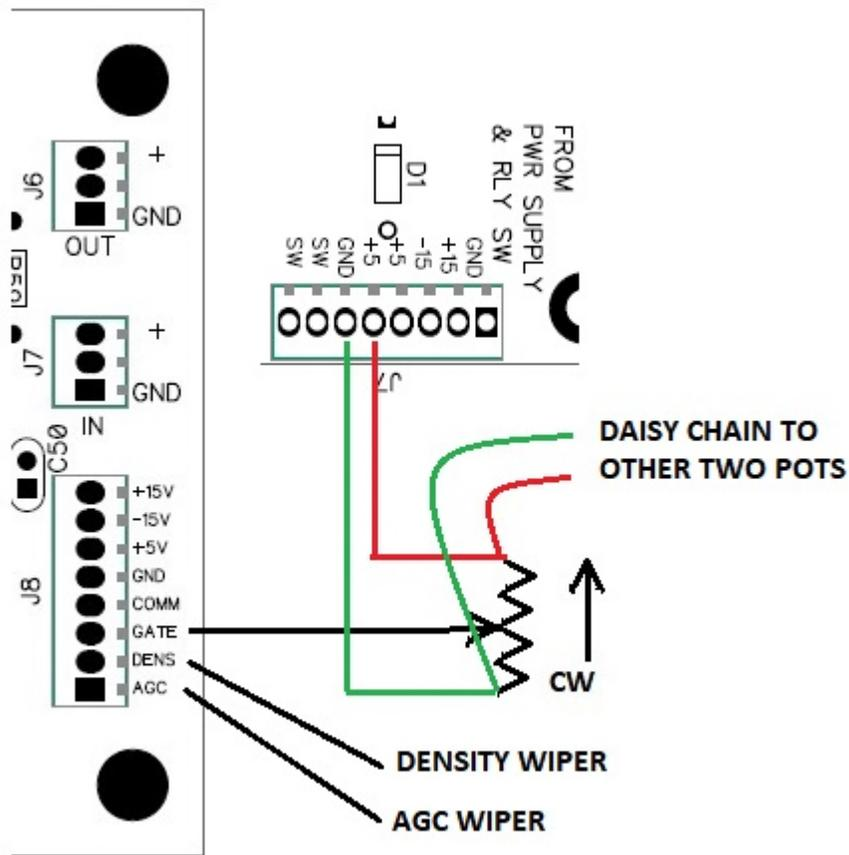

Figure 3
- There are three linear taper pots for adjustment of the Density, Gate and AGC. Power is supplied to them from the MB1 as shown, +5V on the clockwise end and GND on the counterclockwise end. These can be daisy chained to each pot in parallel. The wipers are brought back to the appropriate connection on the BP1 as indicated in Figure 3.